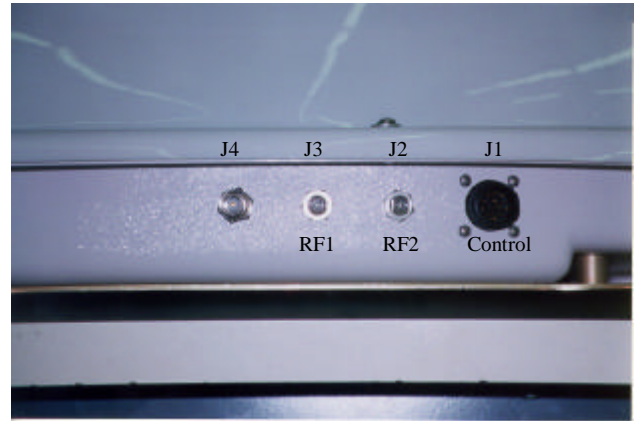

Figure 4-1
The DBS-4500 is designed to install quickly and easily. As can be seen in Figure 4-1, there are only four “Plug & Play” connectors, J1 through J4, to connect for full implementation of the DBS-4500 antenna system. Only connection of J1 and J3 are necessary for most installations. Therefore, it is not necessary to remove the radome cover to install this system. **CAUTION:** *Follow these installation instructions exactly to ensure a trouble free installation. An incomplete or incorrect installation could result in a voided warranty. To avoid warranty problems, use only Datron authorized installers to complete this installation.*
Step 1 Attach the Antenna Control cable circular connector to the antenna. Be sure to rotate the plug clockwise until the connector is completely seated. Connect the two RF cables, RF1 and RF2 and slide weather bolt over the connections. (See Figure 4-1.)